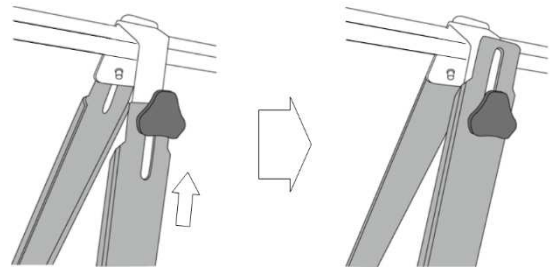

Fig. 3 Assembling the bipod
3. Find the U-shaped bracket mounted on the upper boom. To fix each leg at a proper angle to the upper boom, slide each leg fully into the U-shaped bracket and firmly screw it with two screws with a built-in knob (see Fig. 3). If not attached at first, slide the two legs into the bracket and fix them by the screws.